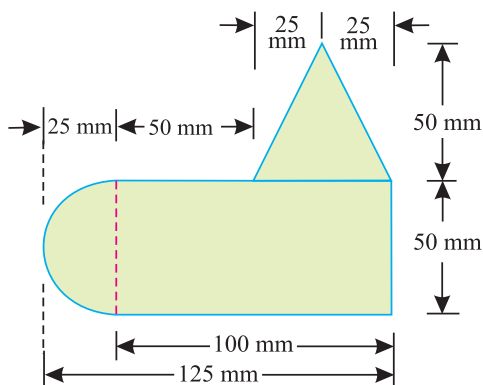

Fig. 6.14.
**Example 6.5.** A uniform lamina shown in Fig. 6.14 consists of a rectangle, a circle and a triangle.